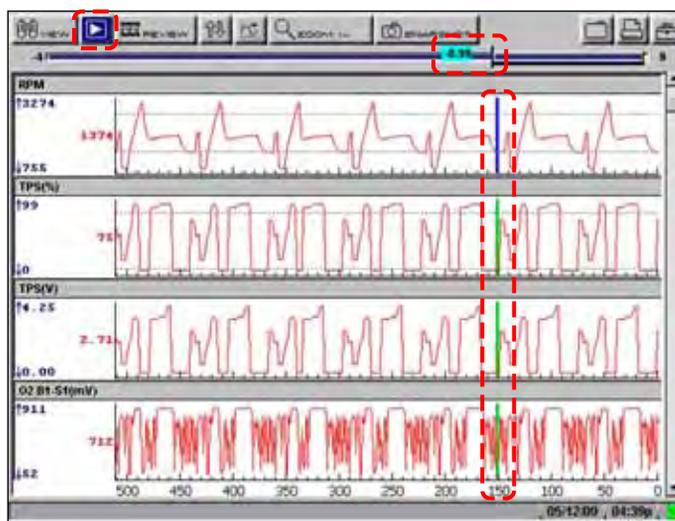

Figure 5-36 Sample PID Triggering condition setting(s) met
Once data collection is finished, graphing automatically stops and the screen changes as follows (Figure 5-36):
- Select the Play button (Figure 5-36).